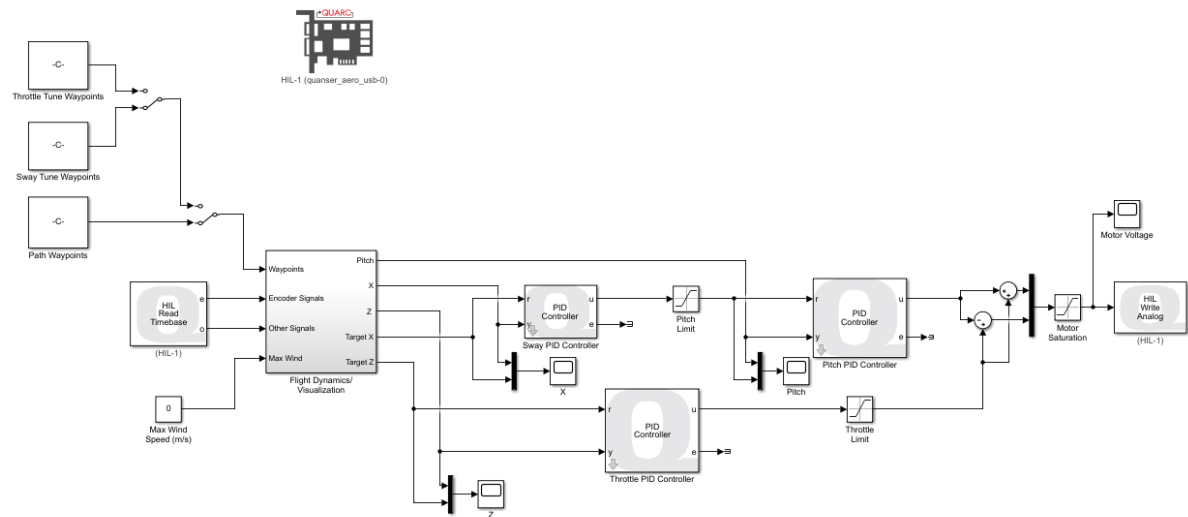

Figure 1.2: Aero model: q_aero_vtol_simulation.mdl
The control architecture for the Aero simulation is displayed in figure 1.2, each PID controller block has an input r which represent the desired command and an input y which is the current state. You may consider the internal block diagram for the PID blocks as a simplified PID model described in previous section.
1. Open `q_aero_vtol_simulation.mdl` As shown in Figure 1.2 . Double click the Pitch PID Controller block and update the PID values as found in section 1.